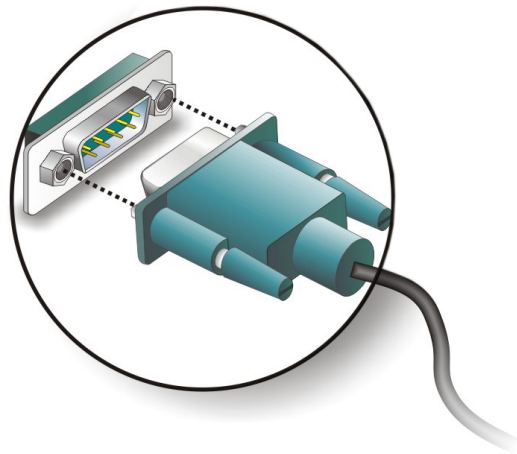

Figure 5-25: Serial Device Connector
Step 2: Insert the serial connector. Insert the DB-9 connector of a serial device into the DB-9 connector on the external peripheral interface. See Figure 5-25.